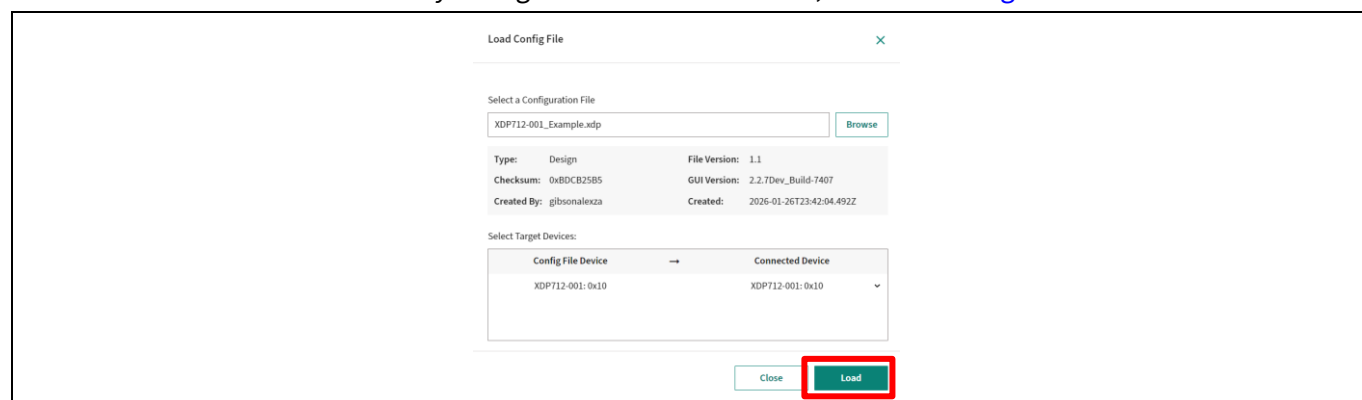

Figure 39 Load the selected configuration file
3. Click **Load** to load the necessary configuration onto the device, as shown in Figure 39